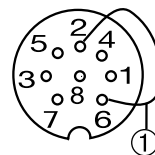

Fig. 5: Pin assignments BKS, connector type BTL
① The analog transducer outputs are potential-free. When connecting to a module with non-potential-free inputs, ground loops may cause erroneous signals. Avoid this by defeating the potential-free function in the transducer: jumper Pin 2 and Pin 6 in the female connector (Fig. 5).
② A small voltage difference (< 10 mV) appears between pin 3 and 5 due to separate output drivers.
③ Reference GND for supply voltage and EMC!